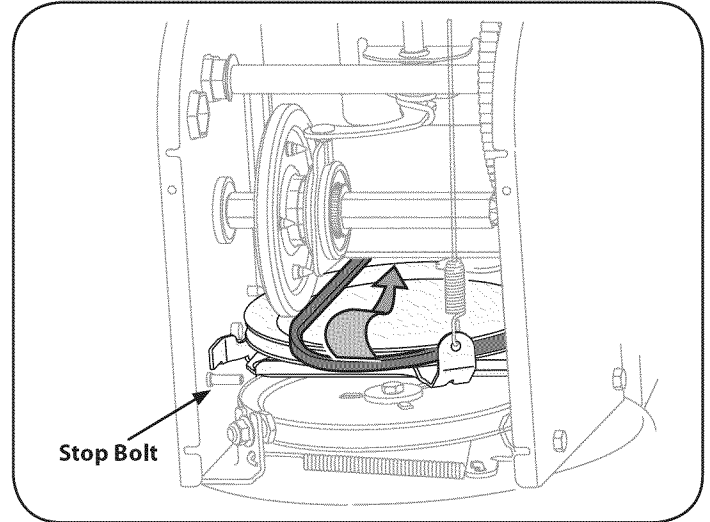

Figure 28
- Back out the stop bolt to increase the clearance between the friction wheel disc and friction wheel. See Figure 28.
- Slip the drive belt off the pulley and between friction wheel and friction wheel disc. See Figure 28.